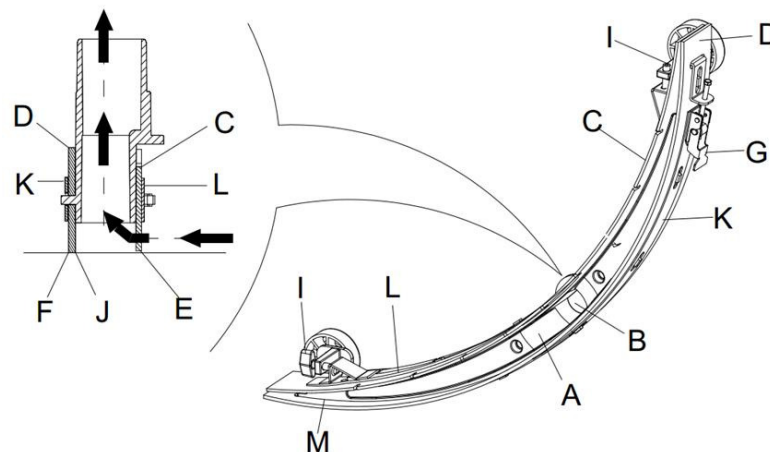

Figure 15
2. Press the power switch (41) to the “O” position to turn off the machine.
3. Unscrew the squeegee knobs (16); remove the vacuum hose from the squeegee assembly & remove squeegee.
4. Use the squeegee lift handle (14) to lift the squeegee mount bracket.
5. Using a damp towel, clean the squeegee (Figure 15). Clean in particular the groove (A, Figure 15) and the dirt and fragments on the vacuum tube. Check if the front squeegee blade (C) and
1. Following the methods related in the previous section clean the squeegee (Figure 15)
2. Check the edge (E, Figure 15) of the front squeegee blade and the edge (F) of the rear squeegee blade (D). On the whole length, they should be level. Otherwise, adjust their heights through the following procedure.
- Loosen the clip (G) to let the rear squeegee blade (D) separate from the bracket (M) for the adjustment of the position of the squeegee. After the adjustment, lock the clip once again.
- Loosen the screw on the handle (I) to adjust the front squeegee blade (C); tighten the handle screw after adjustment.
3. Check if the front squeegee blade (C) and the rear squeegee blade (D) is intact and if there are broken edges and cracks. If damage is found, change them according in the following way. If the front edge of the rear squeegee blade (J) has worn, it can be flipped upside down and re-installed (the top edge is required to be intact). If the top edge is also worn, change it by following the procedure below:
- Loosen the clip (G) to let the pressure blade separate from the bracket (M), take off the clip bar (K), and then change or turn the rear squeegee blade (D) upside down. Re-install the rear squeegee blade in the reverse order of taking it off.
- Loosen the handle screw (I) and take off the front clip bar (L), and then change the front squeegee (C).